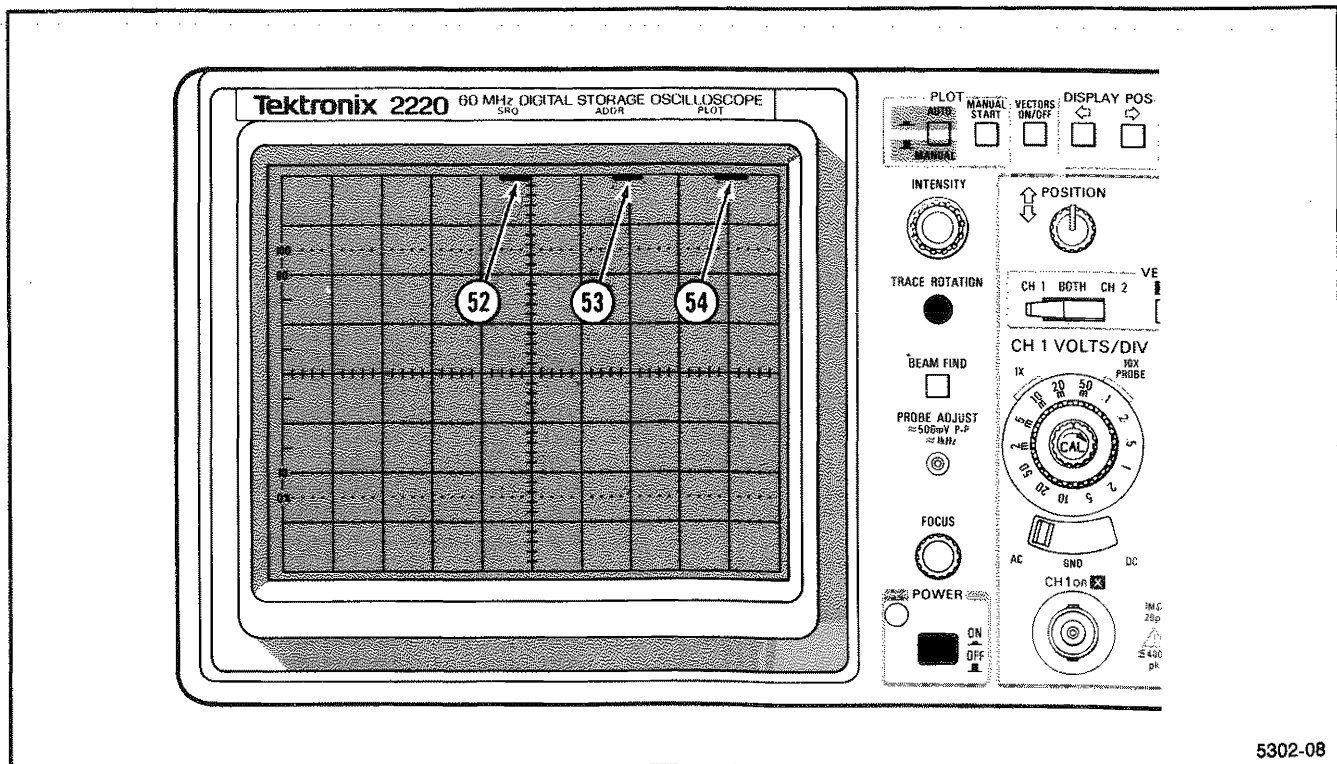

Figure 7-2. Interface status indicators.
Three indicators appear in the crt readout to indicate the status of the communications options. The indicators are labeled SRQ, ADDR, and PLOT on the crt bezel, and appear as intensified lines in the crt under the labels. Refer to Figure 7-2 for the location of items 52 through 54.